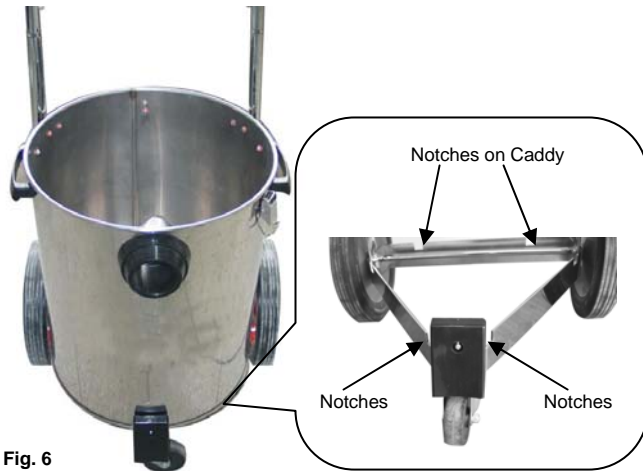

Fig. 6
1. Make sure that the hose intake is facing forwards and the wheels are at the rear of the unit. Using the handles on the canister, carefully lower it onto the frame aligning the canister edge with the notches in the frame. (Fig. 6)